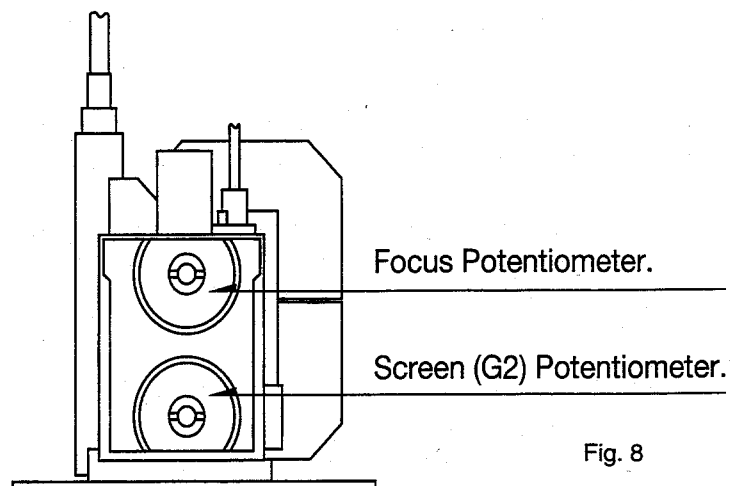

Fig. 8
3. Adjust focus potentiometer (on flyback transformer see fig. 8) to obtain a sharpness & clearest picture on the center cross-line.
Set screen Voltage (G2) to minimum (fig. 8).